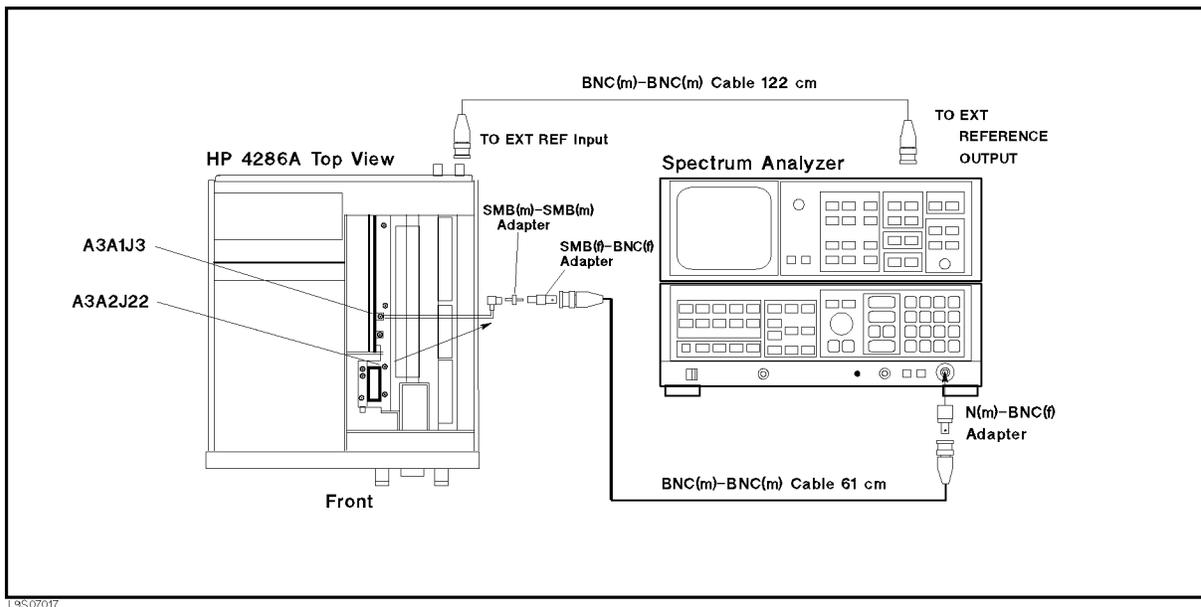

Figure 7-13. 21.42 MHz Signal Test Setup
- a. Remove the “D” cable from A3A2J22, and connect the equipment as shown in Figure 7-13.